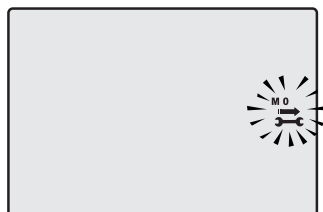

Fig. 9.5
N.B.: the flashing symbol in Fig. 9.5 is not an error. The boiler continues to run normally but it indicates the expiry of the maintenance period.